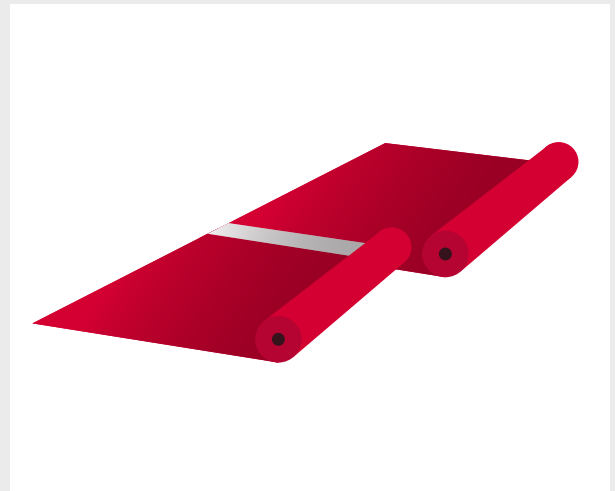

Figure 1:
2. Unroll VaporFlex® Premium running the longest dimension parallel with the direction of the pour and pull open all folds to full width. (Fig. 1)